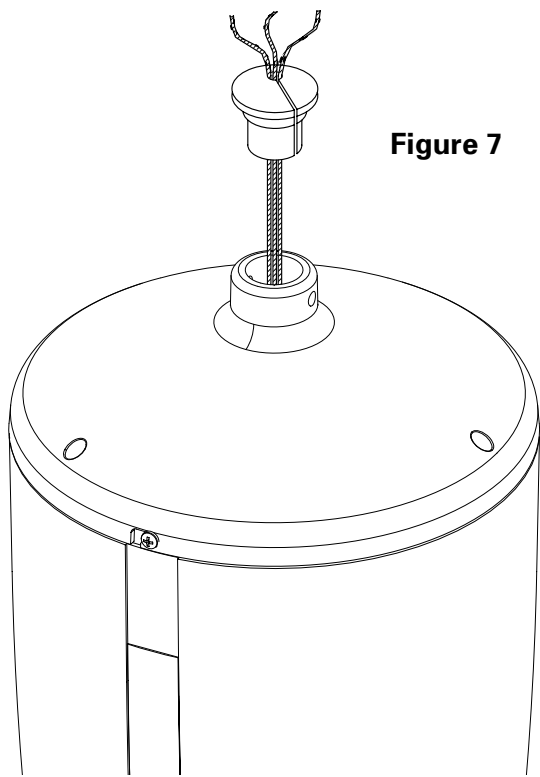

Figure 7
9. Slide the top hole plug over the main support cable, safety cable, and speaker cable using the opening on the side of the plug. Then slide the plug down the cable and into the top cover hole. (Fig 7 and 8)